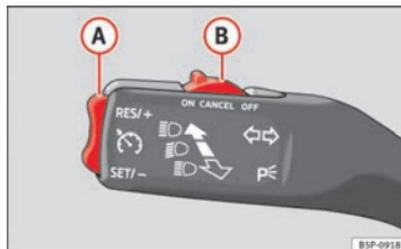

Fig. 147 Turn signal and main beam headlight lever: switch and rocker switch for cruise control ▶
- Push the switch ⇒ Fig. 147 (B) to the left to **ON**.